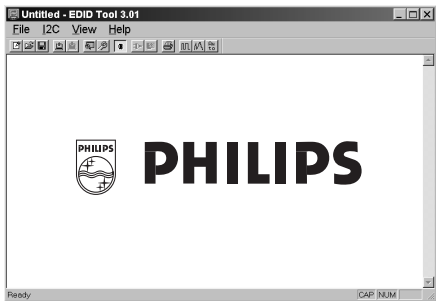

Fig. 6
- 4. Click **OK** button. The main menu appears (as shown in Fig. 6). This is for initialize alignment box.